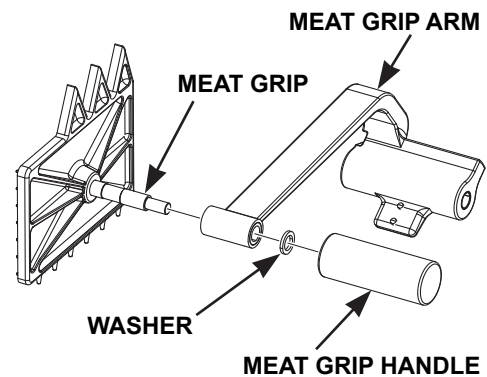

Fig. 7
- Loosen the Meat Grip Handle (Fig. 7) and remove the Handle, Meat Grip Arm, and Washer from the Meat Grip (Fig. 7).